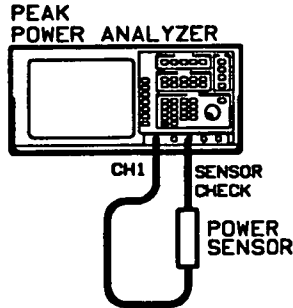

Figure 1-5. Checking Sensor Check Source Equipment Setup
1. Connect the equipment as shown in Figure 1-5.